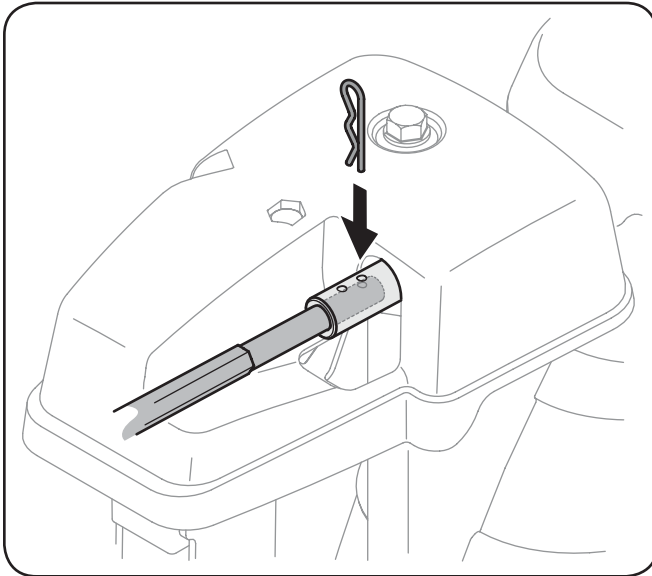

Figure 3-8
7. Push the hex rod toward the control panel until the hole in the hex rod lines up with the hole in the chute control input closest to the chute control head and insert the cotter pin. See Fig. 3-8.